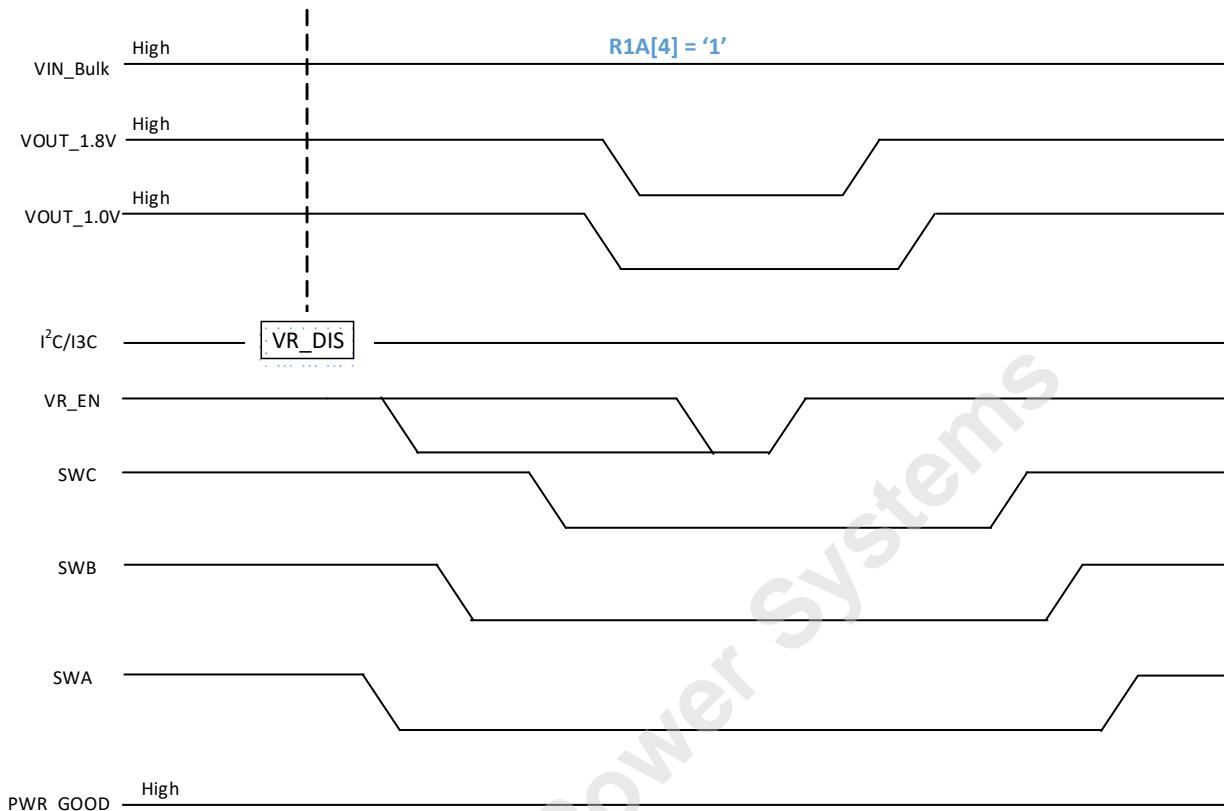

Figure 29 — Power Down with VR\_DIS; R1A[4]=1; Program. Mode; PWR\_GOOD Signal
- b. If VR Disable command on a I2C/I3C Basic Bus (i.e., Table 138, “Register 0x32” [7] = ‘0’), PMIC keeps the PWR\_GOOD signal floating because this is an intentional command from the host and not a fault condition. The PMIC exits from P1 state with only VR\_EN pin transition to High. The host can re-enable the PMIC’s output regulators by VR\_EN pin transition to High and PMIC executes power on sequence config 0 to power on sequence config 2 registers. The PMIC continues to float PWR\_GOOD signal until tPMIC\_PWR\_GOOD\_OUT timing parameter is satisfied and at that point PMIC assumes normal control of PWR\_GOOD signal. See Figure 29. The PMIC does not require power cycle.
2. Configuring one or more bits in Table 135, “Register 0x2F” [6:4:3] to ‘0’ in any specific sequence that is desired by the host. The PMIC does not execute power off sequence config0 (Table 167, “Register 0x58”) to power off sequence config2 (Table 169, “Register 0x5A”) on its own. The PMIC keeps the PWR\_GOOD signal floating because this is intentional command from the host and not a fault condition. Note that host can re-enable any of disabled output regulators by configuring one or more bits in Table 135, “Register 0x2F” [6,4:3] to ‘1’ in any specific sequence that is desired by the host. The PMIC keeps the PWR\_GOOD signal floating. The PWR\_GOOD signal behavior is same as in Figure 29.